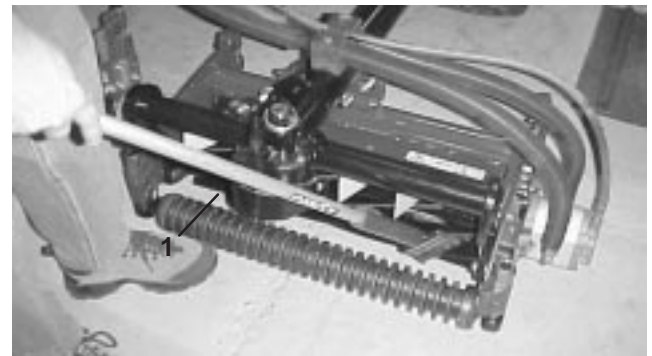

Figure 72
8. Apply lapping compound with a long handle brush (Toro Part No. 29-9100). Never use a short handled brush (Fig. 72).